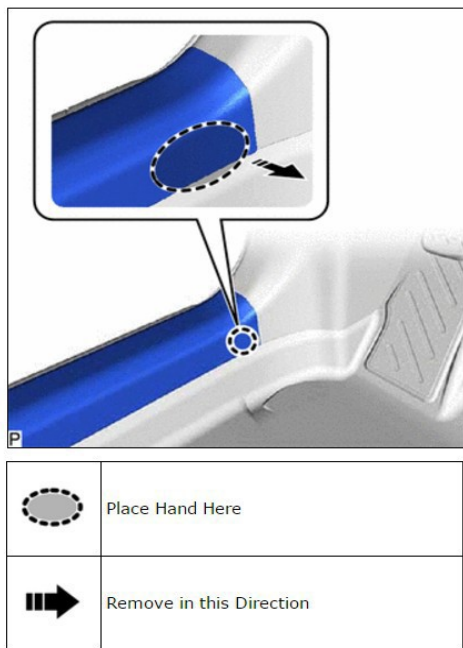

Figure 2
- (a) Disengage the claw as shown in Figure 2.